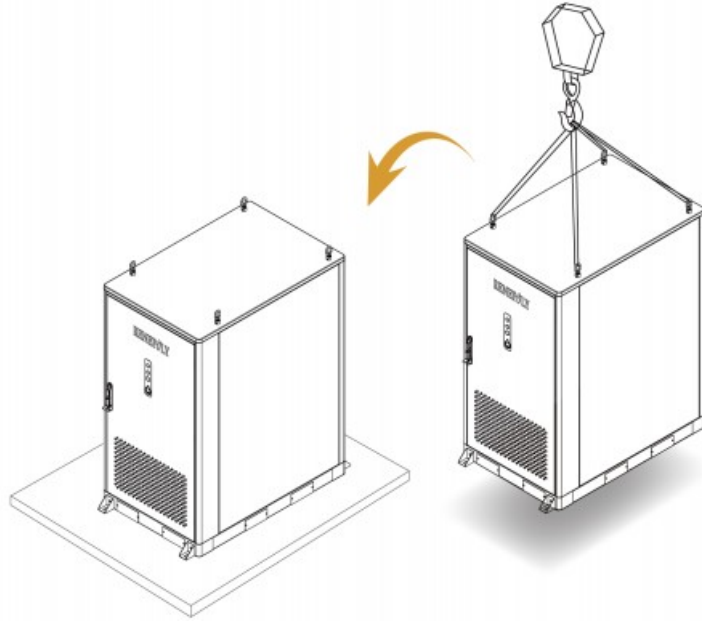

Figure 4-2 Schematic Diagram of Integrated Energy Storage Cabinet Installation
2. The hoisting process must strictly follow the hoisting diagram, as detailed in the attached Figure 4-2 below.